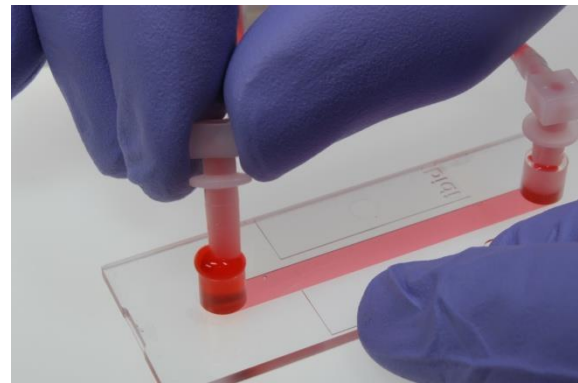

Figure 23: Connecting the μ -Slide
- 2) Before connecting the Perfusion Set to the μ -Slide, the reservoirs of the slide must be filled to the top to avoid inclusion of bubbles. This is shown in Figure 23. For a detailed description please refer to Application Note 13 “HUVEC under perfusion”.